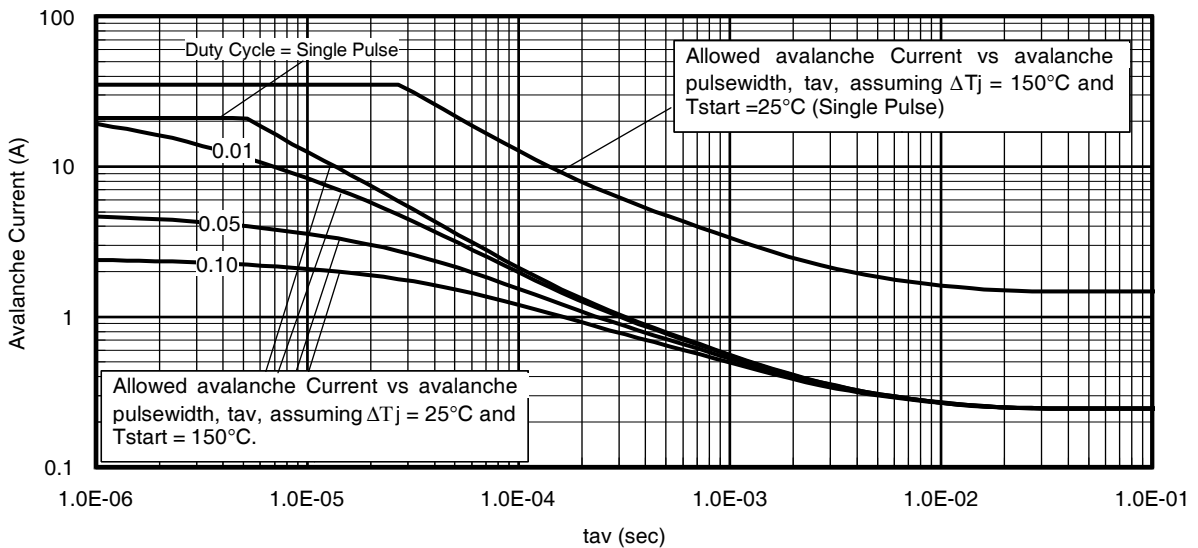

Fig 14. Typical Avalanche Current Vs. Pulsewidth
- ① Repetitive rating; pulse width limited by max. junction temperature. ④ R_{θ} is measured at T_J of approximately 90°C .
② Starting $T_J = 25^\circ\text{C}$, $L = 0.51\text{mH}$, $R_G = 25\Omega$, $I_{AS} = 21A$. ⑤ Limited by T_{jmax} . See Figs. 14, 15, 17a, 17b for repetitive avalanche information
③ Pulse width $\leq 400\mu s$; duty cycle $\leq 2\%$.
Notes on Repetitive Avalanche Curves , Figures 14, 15:
7. ΔT = Allowable rise in junction temperature, not to exceed T_{jmax} (assumed as 25°C in Figure 14, 15).